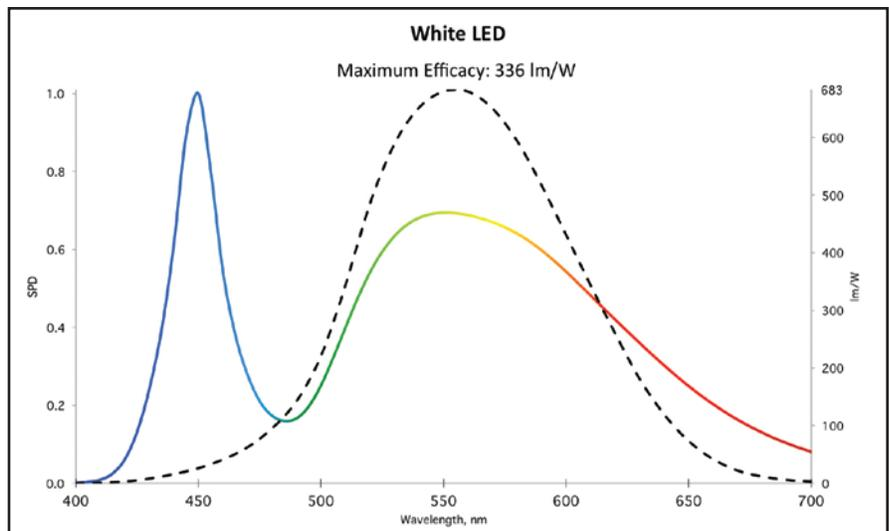

Figure 5 – White LED
**Figure 5** shows the spectrum of a typical phosphor converted white LED with a blue pump LED and a broad yellow phosphor giving the familiar twin peaks.
Look at the shape of that yellow peak, it's been carefully chosen to mimic the peak in the photopic curve, giving highest output at the green-yellow color where the human eye is most sensitive with less wasted energy in the areas where we don't see well. By designing to the curve like this, we get a maximum possible efficacy, if everything else were perfect, of 336 lm/W. The light still looks white, but we've beaten the 250 lm/W barrier. The color rendering isn't perfect (and never can be—we have to give up something to get high efficacy, and rendering is the unfortunate victim) but is acceptable in many cases. Cree hasn't released details of the spectra of their 300 lm/W product, but I'm sure it will look something like **Figure 5**.